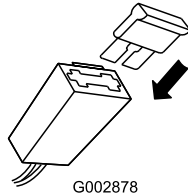

Figure 42
3. Replace the fuse in the fuse holder (Figure 42).